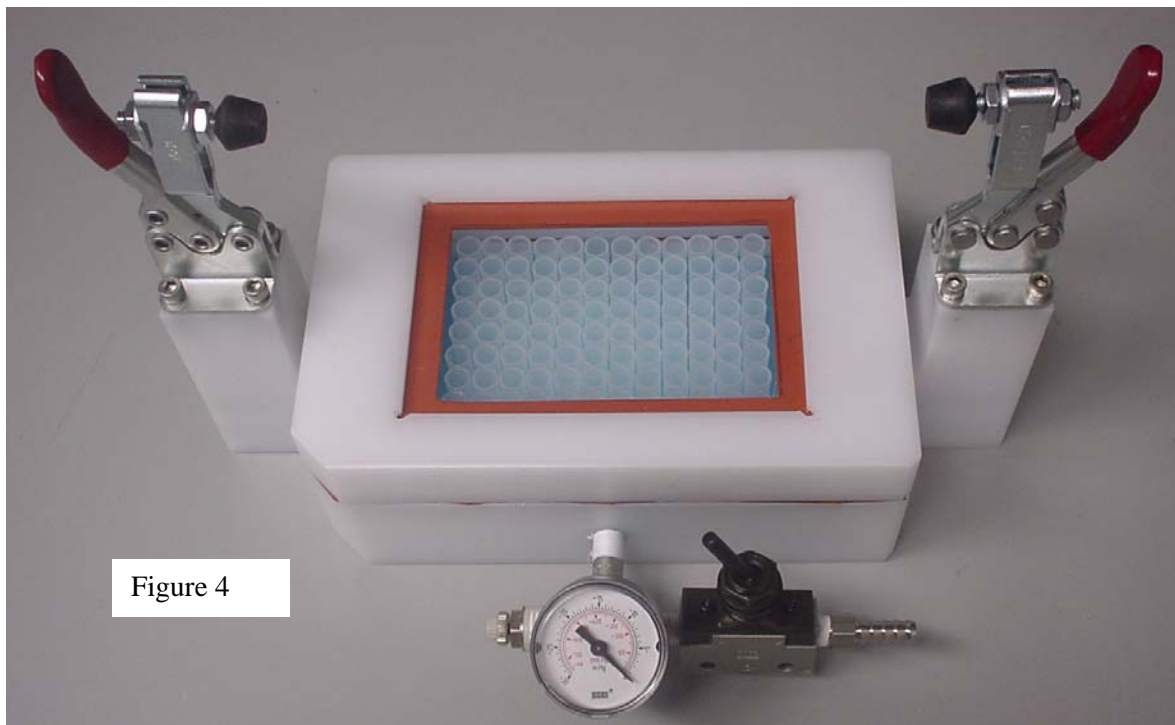
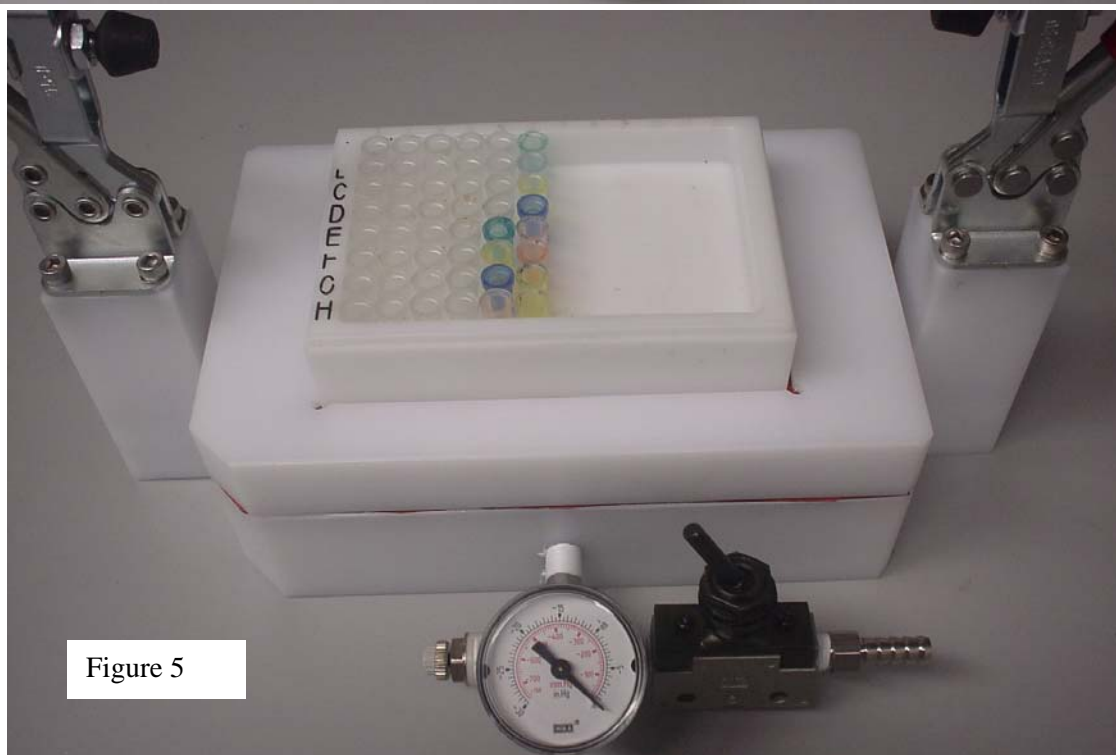

Figure 4
Figure 5
2. Place the top on the device, see figure 4
3. Place a rack of oligos to be cleaved on top of the device, see figure 5
Figure 4 shows the top placed on the vacuum manifold with the rack of tubes loaded in the bottom of the vacuum manifold. Figure 5 shows the plate of oligos on top of the vacuum manifold ready to cleave.